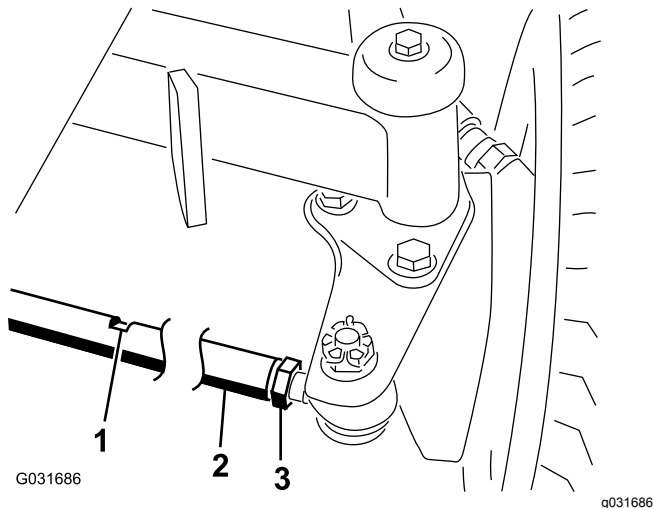

Figure 46
2. Loosen the jam nut on each end of the tie rod (Figure 46).